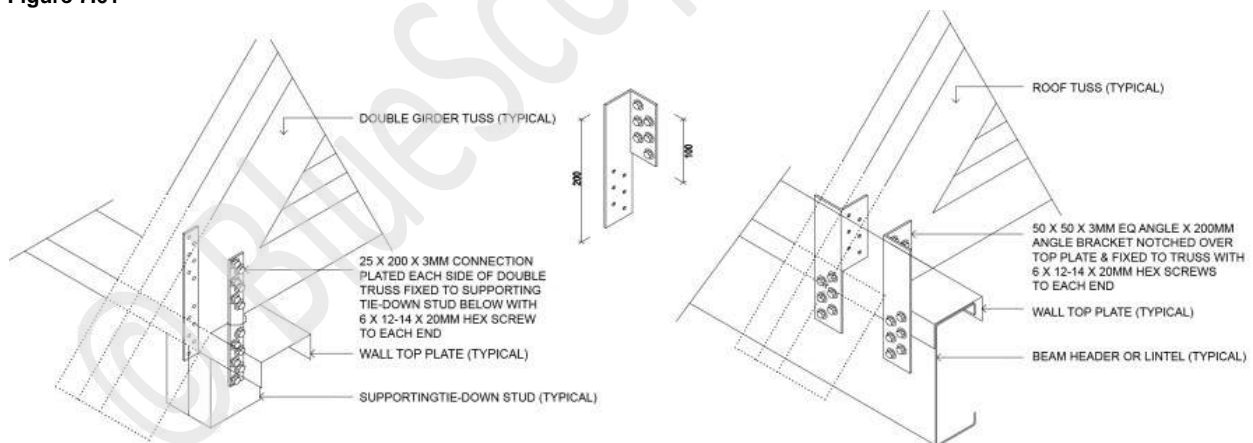
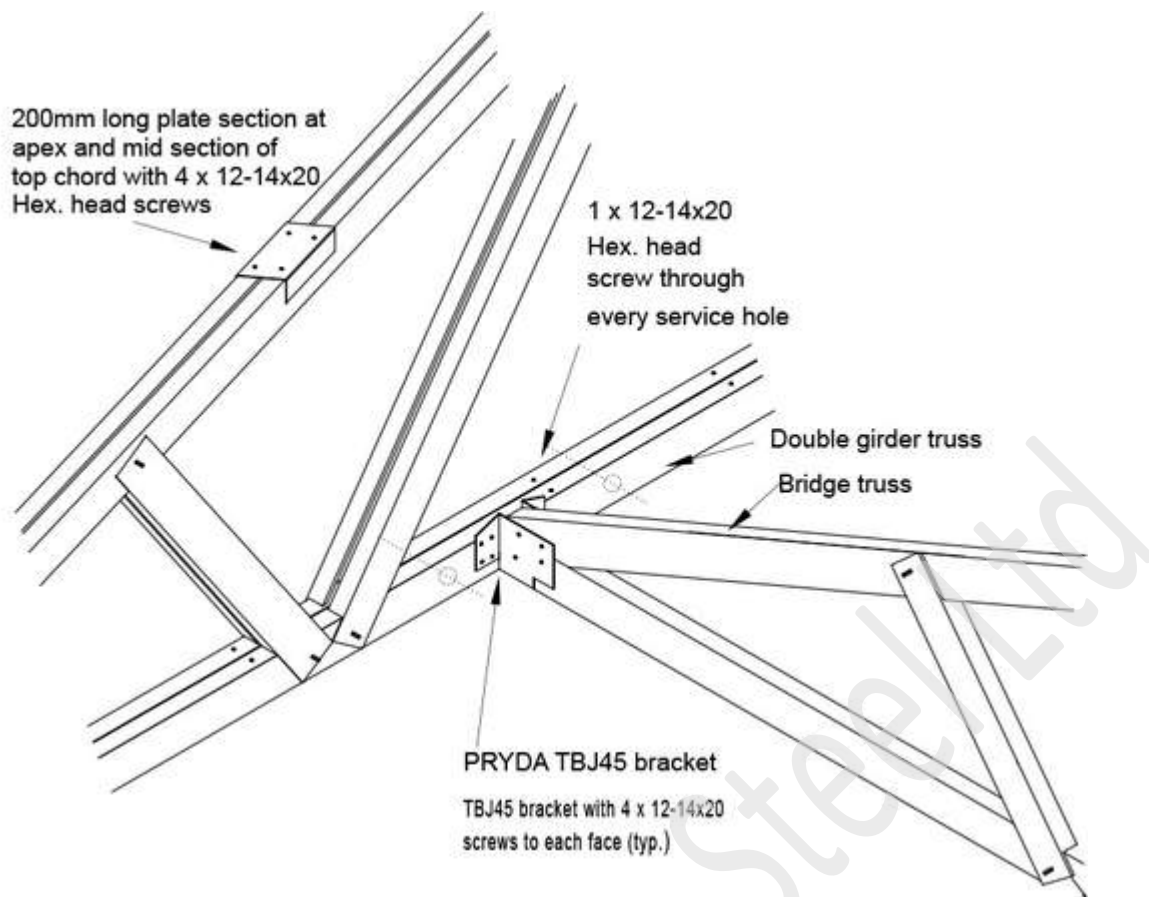

Figure 7.62 Double Girder Truss Hold down with angle and strap tie down option
Figure 7.64 Double Girder Truss Connection
Step 6: Install the bridge trusses to the external wall and girder truss as shown in **Figure 7.64**.
Step 7: Install the second ply girder truss (if applicable) with the toes of both trusses facing each other and fix it to the brackets as shown in **Figure 7.62**. Install 1x12-14x20 Hex Head screws through EVERY service hole provided on the bottom chord to connect the two trusses together as shown in **Figure 7.64** Install 200 long plate sections with 4x12-14x20 hex- head screws to top chord near apex and midspan of top chord.